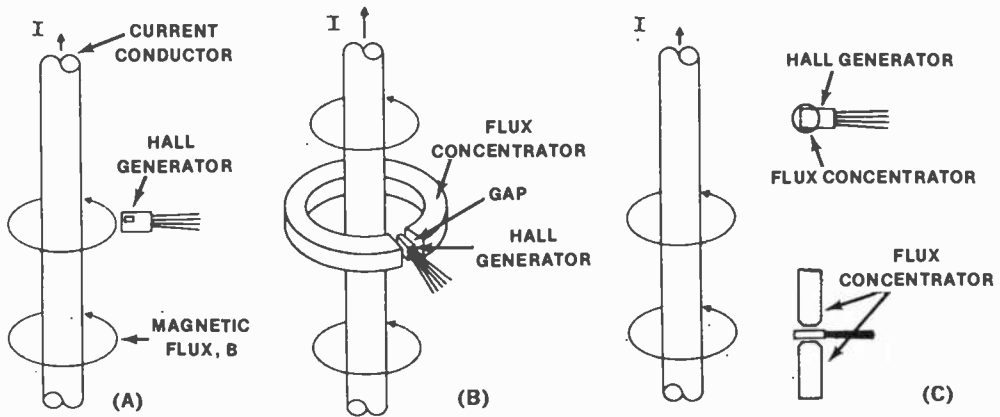

Fig. 2. A simple current sensor is shown at (A). In (B), the Hall generator has a flux concentrator ring. A Moly permalloy strip concentrator is shown in (C).
Fig. 2. Waveforms show timing and synchronization of digital signals. Those at (A) are for one frame of encoder; (B) is for decoder; and (C) shows control variations.
In Fig. 2 are shown various types of Hall-effect sensor applications. The simplest configuration (Fig. 2A) involves nothing more than a Hall generator mounted near a current-carrying conductor. This application works exceptionally well where very high direct currents—such as those re-